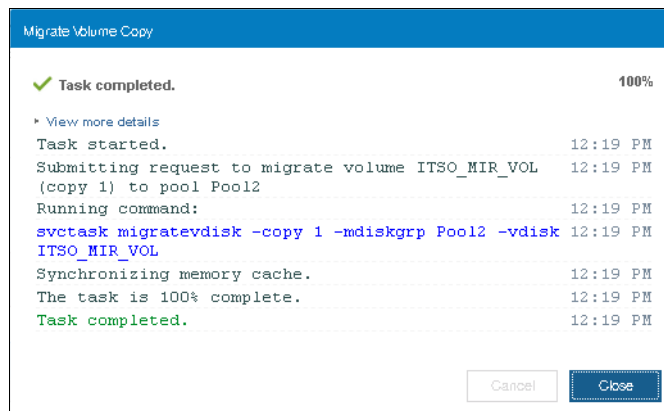

Figure 6-55 Migrate Volume Copy started
- Click **Migrate** and the volume copy migration starts as shown in Figure 6-55. Click **Close** to return to the Volumes pane.